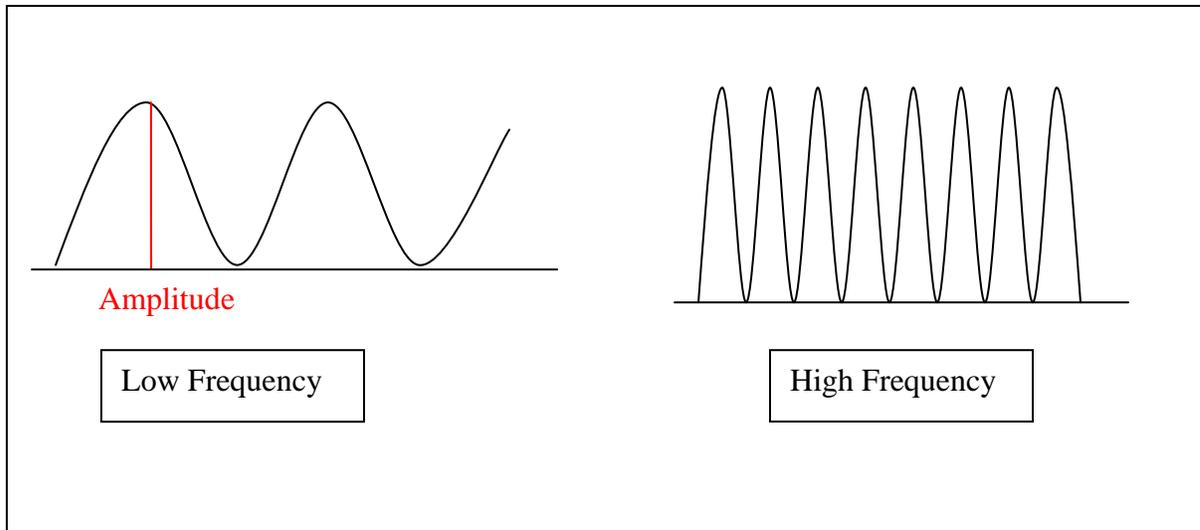

Figure 3. Amplitude of a wave, and high versus low frequency
4. Now is time for introduction to the concepts of amplitude, frequency, and resonance. Ask students what they already know about these concepts. Some students may know, for instance, that resonance and frequency are used in describing the tone of musical instruments and the quality of sound produced by different recording techniques and players. When explaining amplitude, remind students of what they learned in Lesson 6 (seismic energy). Amplitude is a measurement of the energy of a wave. In this activity, amplitude is how far to the side the block or structure moves. Frequency is the rate at which a motion repeats (or oscillates). In this activity, frequency is referred to the number of oscillations in an earthquake wave that occur each second or each minute. In earthquake engineering, frequency is the rate at which the top of a structure sways. You may want to draw something similar to Figure 3 when discussing the above terminologies. Resonance is an increase in the amplitude of a physical system (students' structure models, in this case) that occurs when frequency of table shaking is close to the natural frequency of the structures.